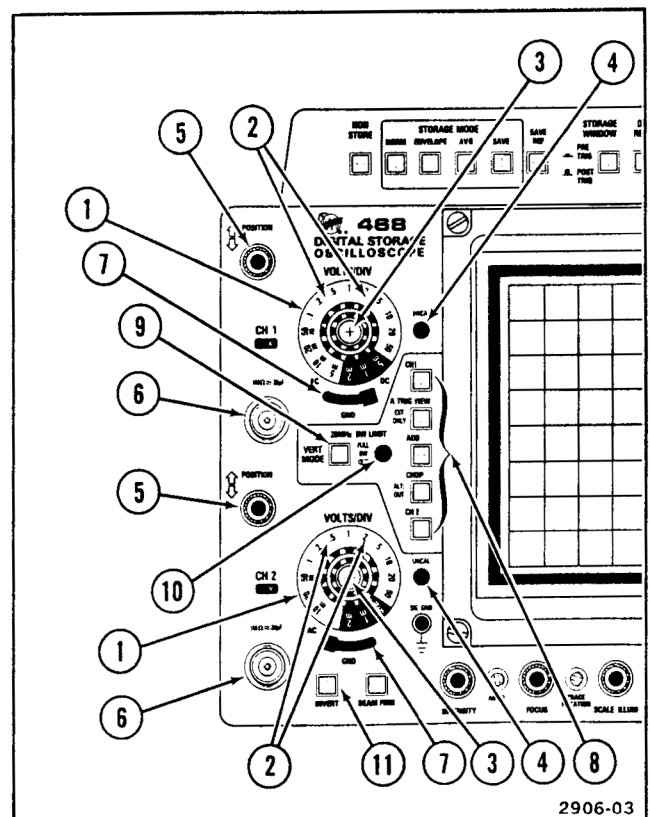

Figure 2-3. Vertical controls, connectors, and indicators.
Refer to Figure 2-3 for location of items 1 through 11.
- ① **VOLTS/DIV Switches**—Select the vertical deflection factor from 5 mV per division to 5 V per division in 10 steps for Channel 1 and Channel 2 in a 1-2-5 sequence. Three additional switch positions (0.5 mV, 1 mV, and 2 mV) are used in storage modes to vertically expand the waveform acquired at 5 mV per division (up to 10 times). VAR control must be in the calibrated detent to obtain a calibrated deflection factor. These switches also set the scale factor of the digital storage VOLTS measurement LED readout.